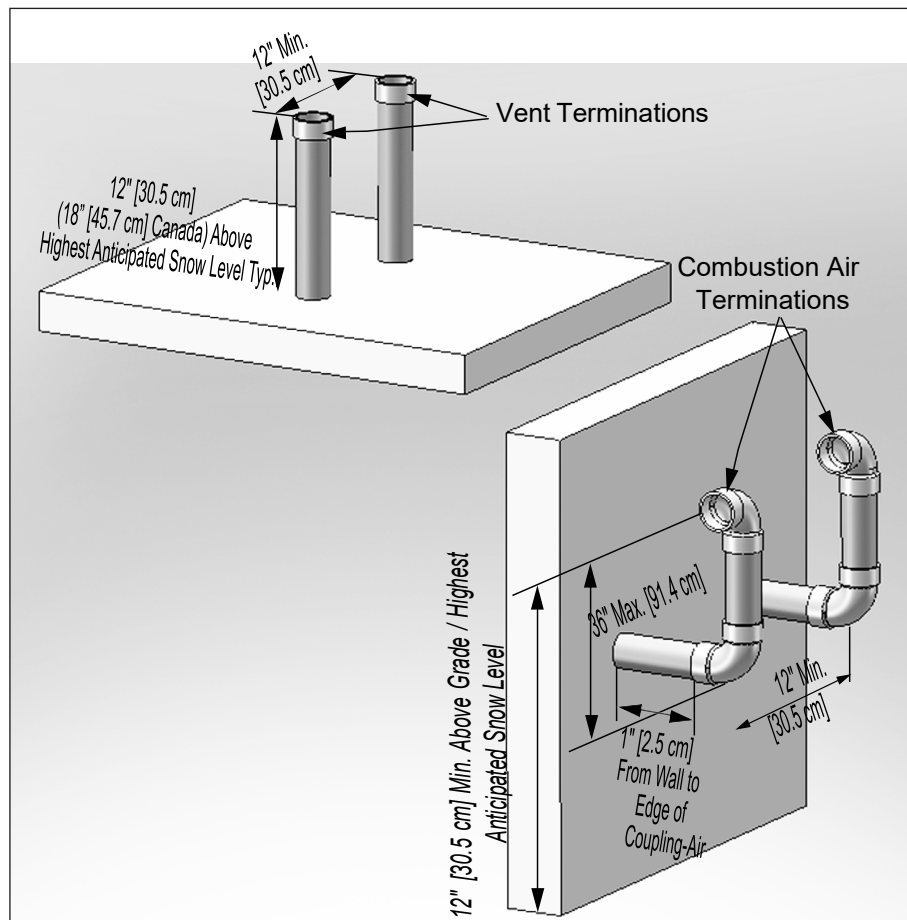

Fig. 13 - Direct Vent - Vertical Vent and Sidewall Combustion Air Terminations of Multiple INSTINCT Boilers
2. Each vent and combustion air termination must be a minimum 12" [30.5 cm] from the adjacent termination for installations in the U.S. as shown in Fig. 13 below. For installations in Canada, provide clearances as required by CAN/CSA B149.1.